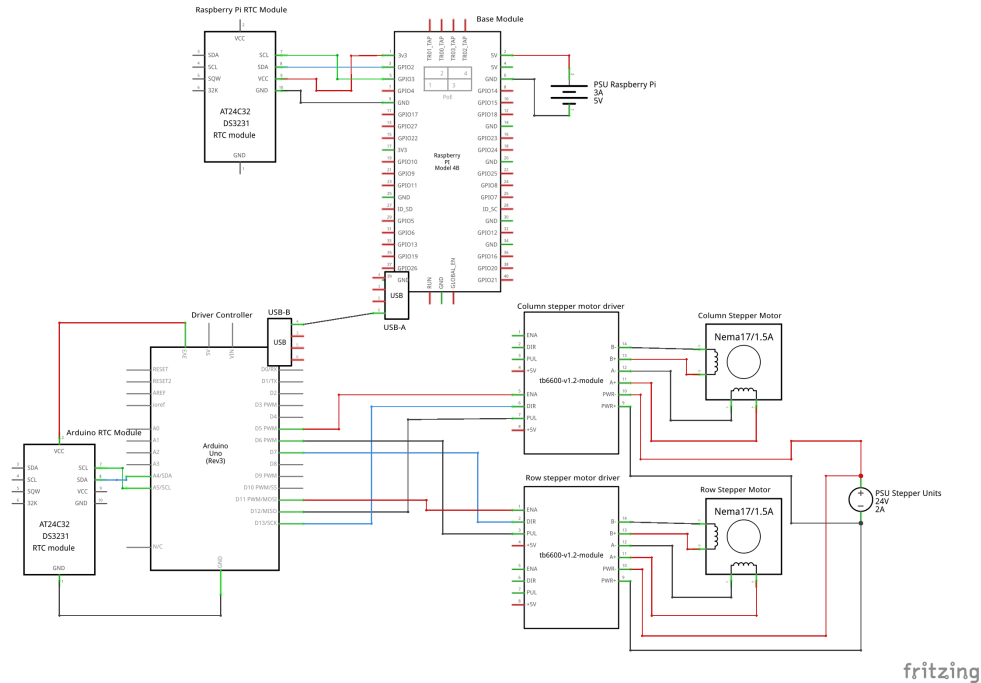

Figure 1: Engineering drawing of the Paparazzo system.
- If cables loosened, check Figure 1 to ensure correct wiring.